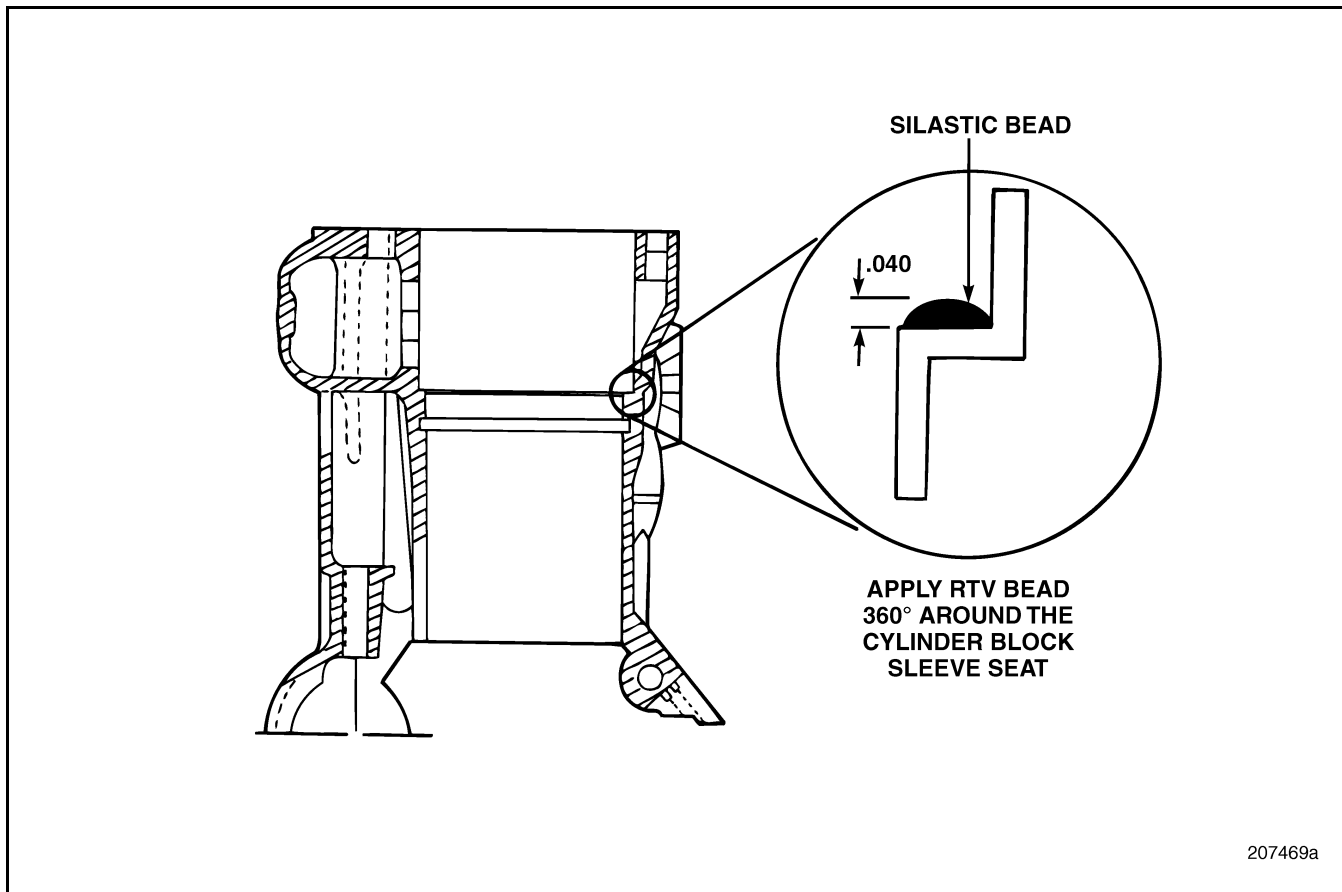

Figure 145 — Cylinder Block Sleeve Seat
Refer to Figure 145.
3. Apply approximately a 0.120–0.160-inch (3.048–4.064-mm) bead of RTV silicone (MACK Silastic® 342SX32, Dow Corning Silastic® RTV732 or General Electric RTV130) on the cylinder block sleeve seat and completely around the cylinder wall as shown in Figure 145. Do not use excessive amounts of RTV. Do not apply more than a 0.160-inch bead.